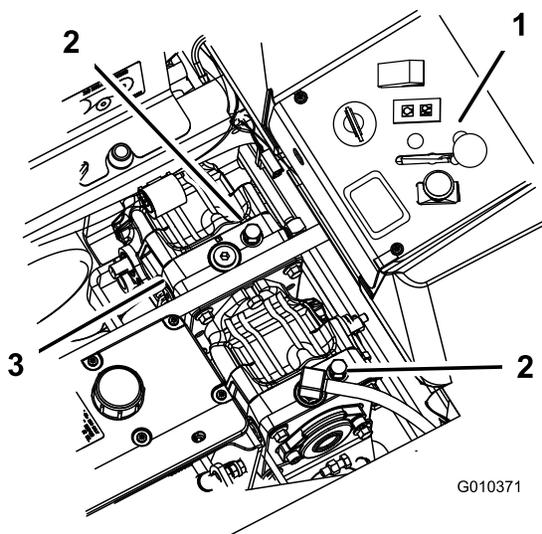

Figure 33
2. Rotate the bypass valves counterclockwise 1 turn to push (Figure 33).
Rotate the bypass valves clockwise 1 turn to operate machine (Figure 33).